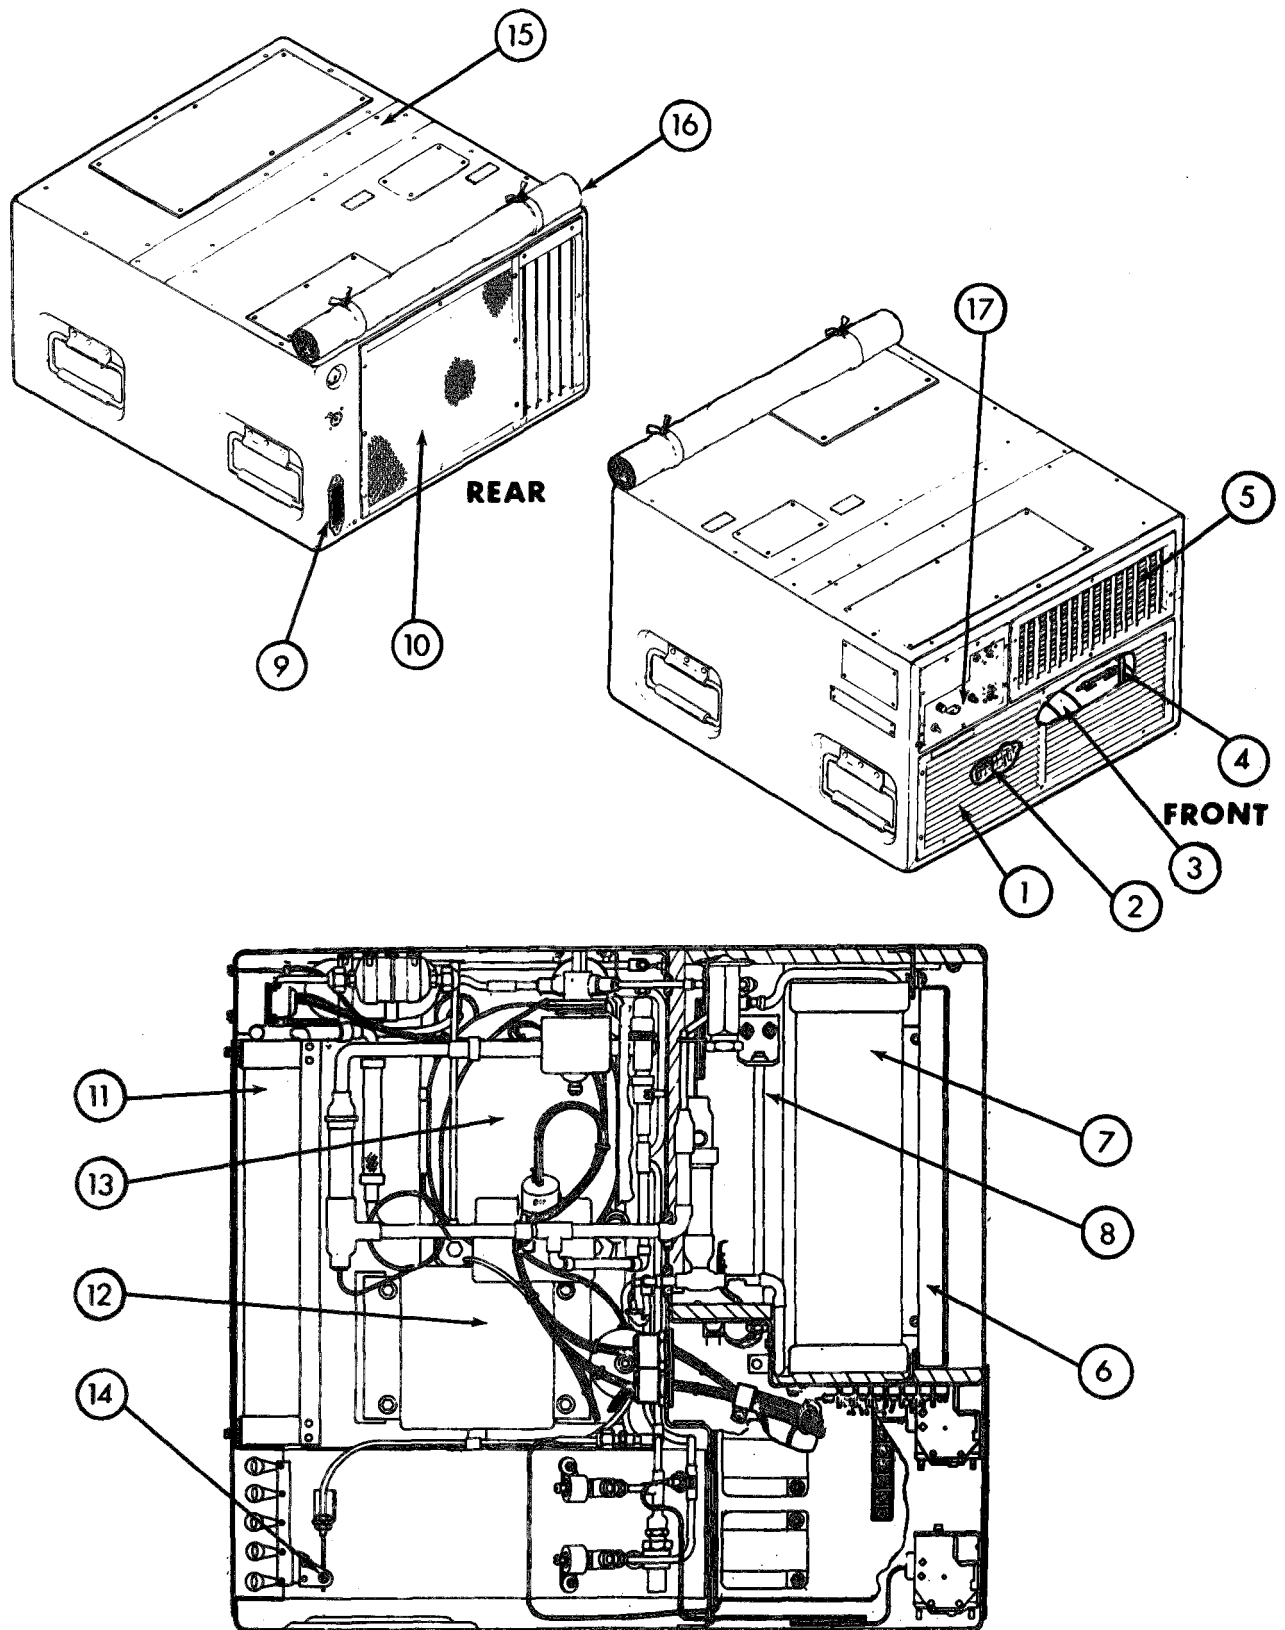

Figure 4-6. Location of PMCS Items
b. Table 4-1 lists the organizational preventive maintenance checks and services that should be performed at quarterly (or otherwise established) intervals. Figure 4-6 shows the location of PMCS items. The PMCS items in the table have been arranged and numbered in a logical sequence to provide for greater personnel efficiency and least amount of required maintenance downtime. The "Para Ref" (Paragraph Reference) column on the right side of the table provides the paragraph number where detailed, step-by-step disassembly/reassembly maintenance procedures may be found. The item number column will be used as a source of item numbers for the TM Number Column on DA Form 2404.